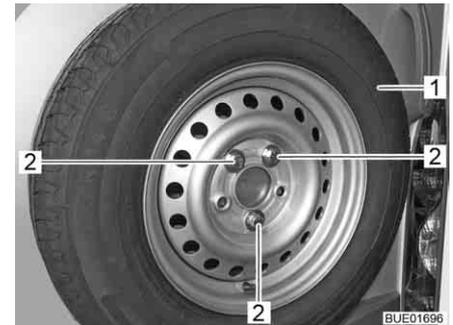

Fig. 233 Securing the spare wheel
- Unscrew three securing bolts (Fig. 233,2).
- Remove spare wheel (Fig. 233,1).